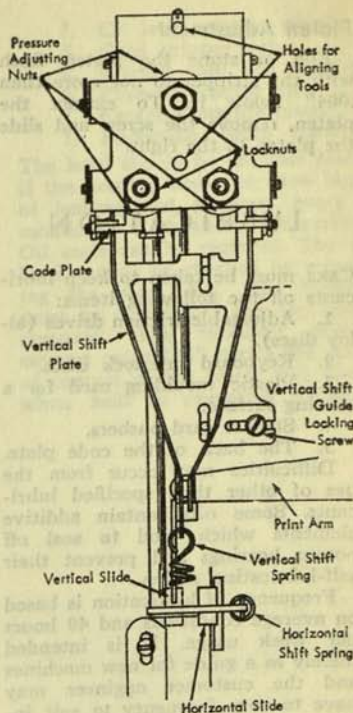

Figure 37. Code Plate Adjustment
2. Loosen the vertical shift guide locking screw and unhook both shift springs (Figure 37).
3. Shift the code plate until the aligning tools can be inserted through the guide holes in the back of the code plate and wire guide plate (Figure 37).